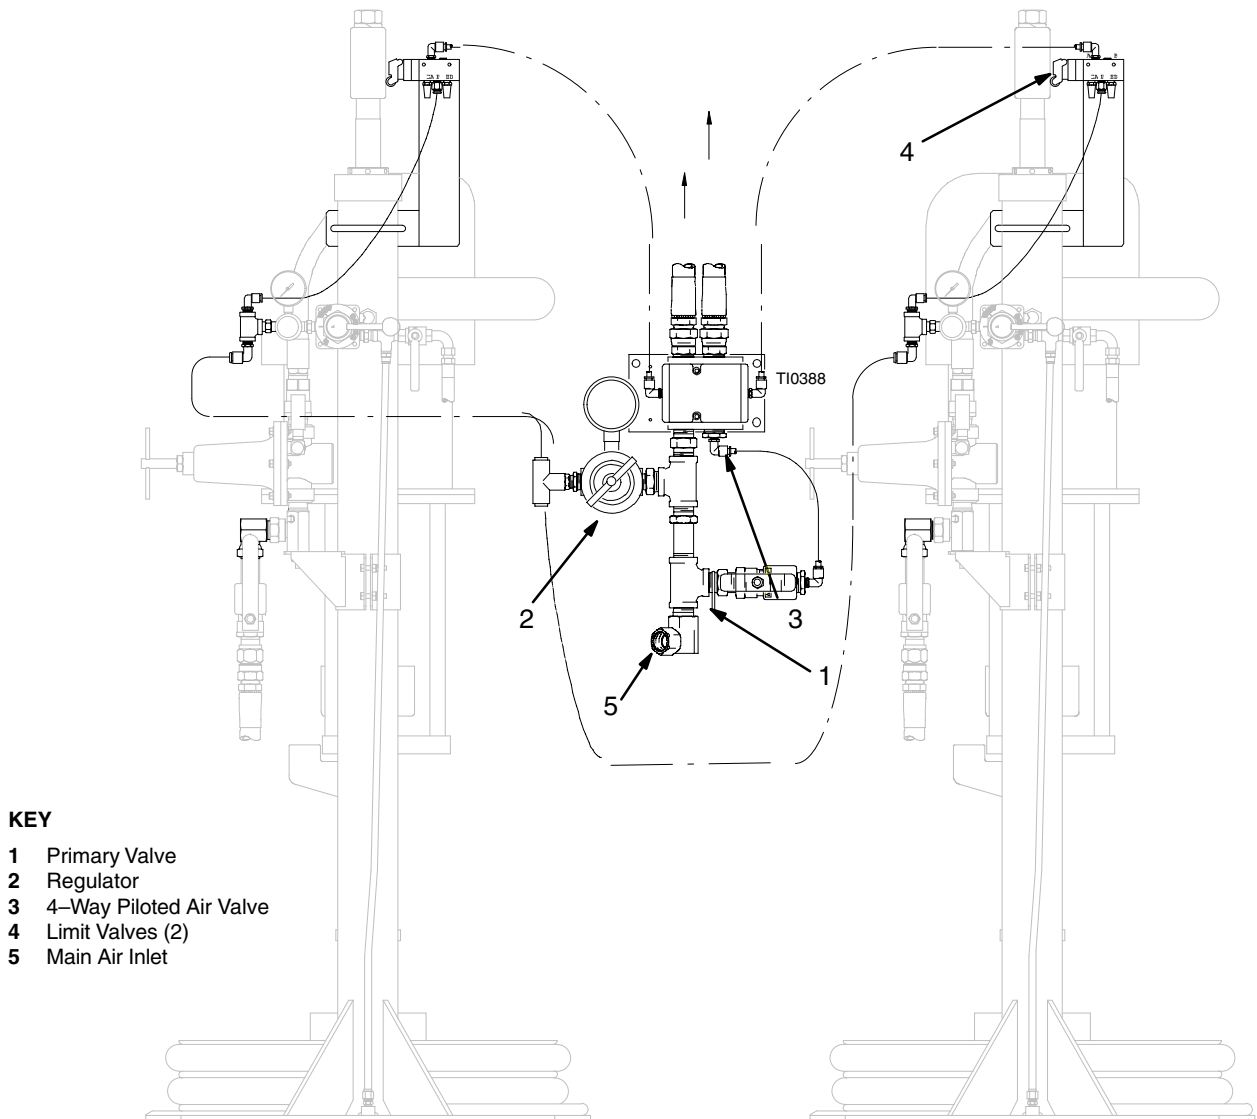

Fig. 3
Install the pneumatic crossover as shown in Fig. 3.
**NOTE:** The position of the limit valve (4) on the ram determines when the ram air motor is turned on and off. During operation, this position can be adjusted as desired. See Fig. 3.